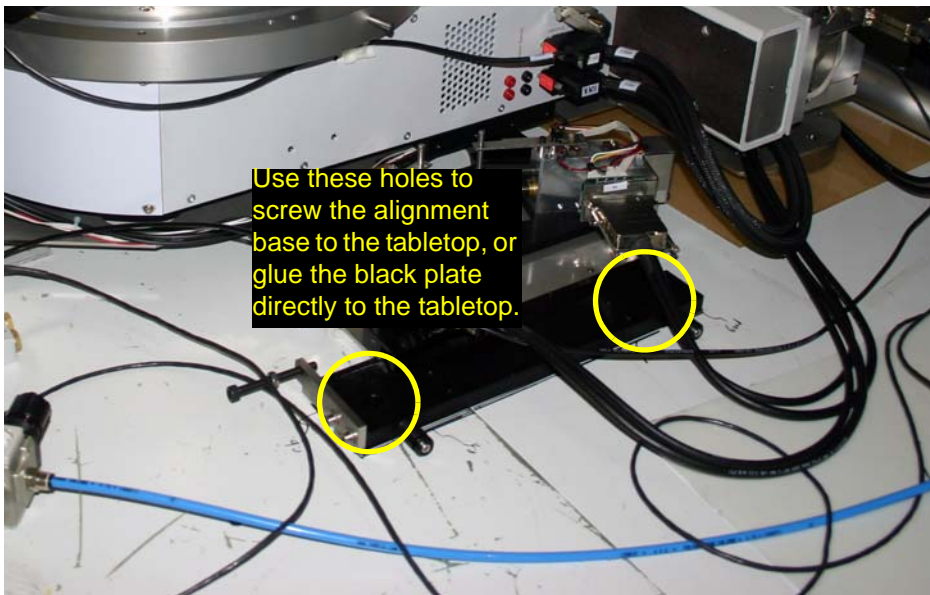

Figure 3.2 — Screwing the alignment base to the tabletop
1. Mark the position of the alignment base on the tabletop, and secure it to the tabletop with screws or glue (Figure 3.2). This will provide counterpressure for the alignment base when you start using the rotation adjustments; without the base secured down, the pivot plate would move and the rest of the alignment base would not.